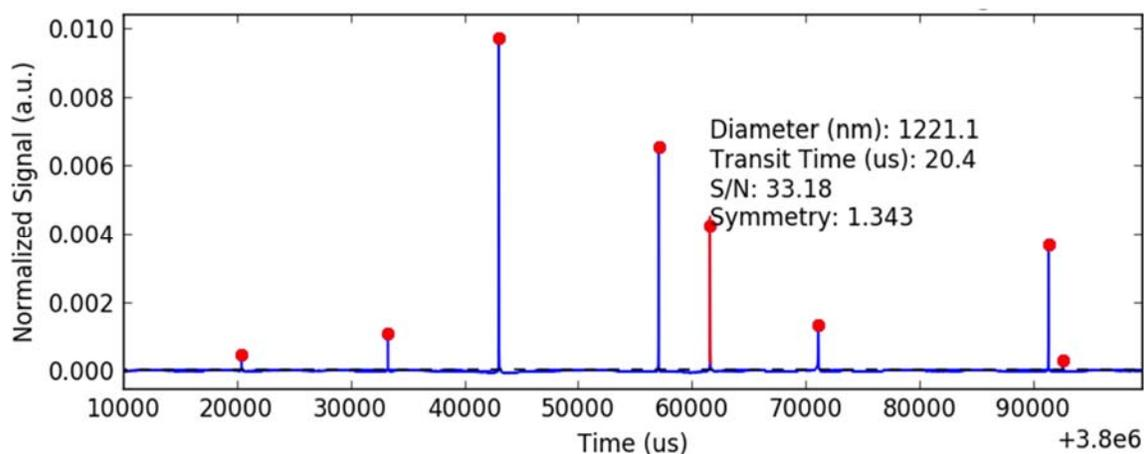

Figure 15. Inspecting individual peaks detected in the raw data.
- ❖ Clicking on the peak (at sufficiently high zoom) displays the details of the peak measurement (Figure 15).